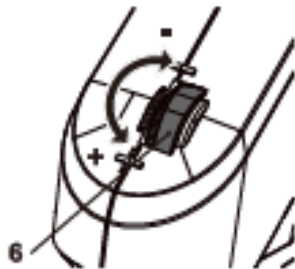

Fig. 5
1. Turn the impact force control (6) downward to increase the impact force (Fig. 5).
2. Turn the impact force control (6) upward to decrease the impact force.